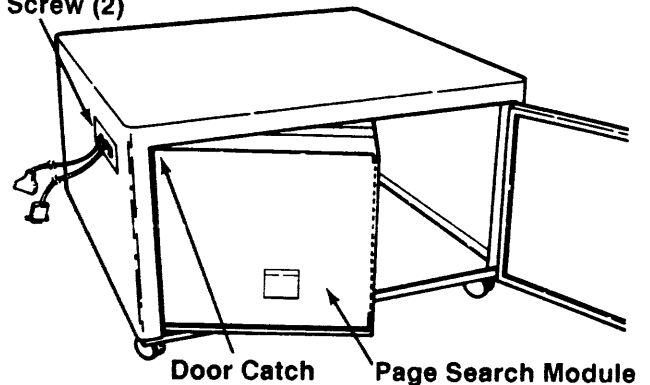

Figure 2-3.1D
- Feed the Cable Harnesses through the port on the left side of the Workstation (Figure 2-3.1D).
- Move the front end of the Page Search Module all the way to the left first placing the Left Frame behind the Door Catch (Figure 2-3.1D) then push the rear to the left.
- Loosely install two 8-32 x 1/2 in. Pan Head Taptite Screws (Item 2) through the left side of the Workstation into the Page Search Module (Figure 2-3.1D).